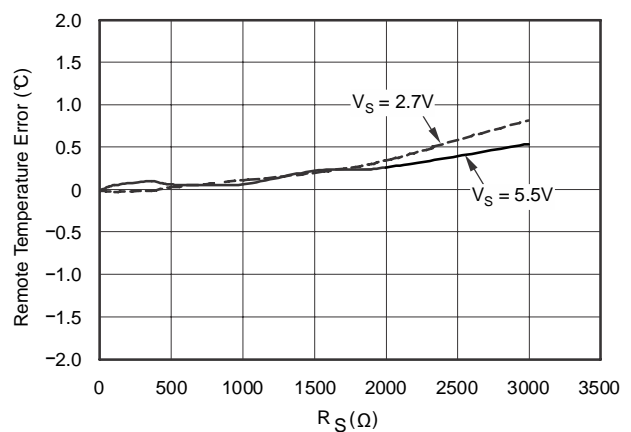
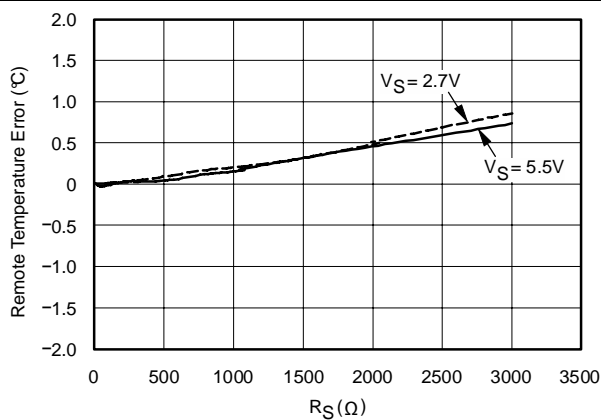

Figure 4. Remote Temperature Error vs Series Resistance (Diode-Connected Transistor, 2N3906 PNP)
Figure 5. Remote Temperature Error vs Series Resistance (GND Collector-Connected Transistor, 2N3906 PNP)
- (1) Diode-connected configuration provides better settling time. Transistor-connected configuration provides better series resistance cancellation. NPN transistors must be diode-connected. PNP transistors can either be transistor or diode-connected. TI recommends this layout for the MMBT3906LP and MMBT3904LP devices.
- (2) R_s (optional) must be $< 1.5\text{ k}\Omega$ in most applications. Selection of R_s depends on specific applications; see the Filtering section.
- (3) C_{DIFF} (optional) must be $< 1000\text{ pF}$ in most applications. Selection of C_{DIFF} depends on specific application; see the Filtering section and Figure 5.
See Figure 4 and Figure 5 for details on the effect of series resistance and power-supply voltage on sensed remote temperature error.